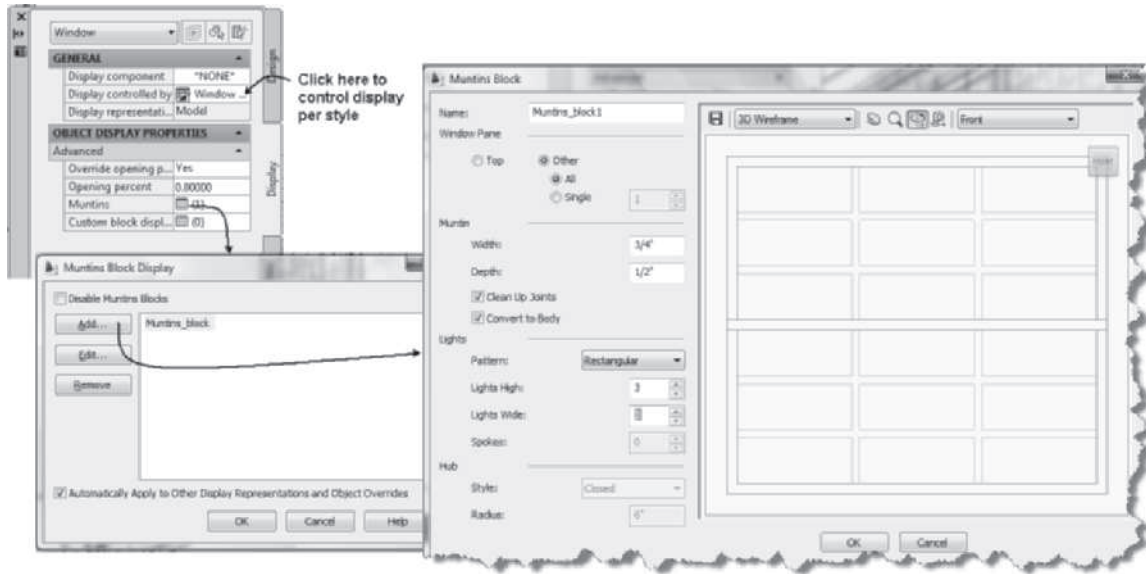

FIGURE 5.48 Creating muntin display
12. To create muntins for the window, select the window, right-click, and choose Properties. Choose the Display tab of the Properties palette. In the Display tab verify that Display Representation = **Model** and Display controlled by = Window Style. Choose the Muntins button to open the **Muntins Block Display** box. Click the **Add** button shown in Figure 5.48 to open the **Muntins Block** dialog box. Edit the Muntins Block as follows: Window Pane, and toggle on the radio buttons for **Other** and **All**; Muntin Width = **3/4** and Depth = **1/2**; Lights Pattern = **Rectangular**; Lights High = **3**; **Lights Wide** = **3**. Click **OK** to dismiss all dialog boxes.